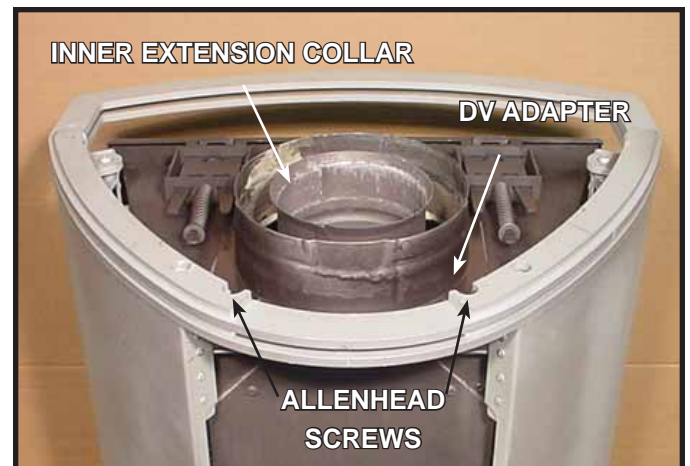

Figure 7.8
3. Remove and retain the Allen head screws that hold the solid back panel in place (**Figure 7.8**). Remove and discard the solid back panel.
4. Remove the inner extension collar (Shown in **Figure 7.8**) and set aside.
5. Remove the four screws from the DV adapter collar (**Figure 7.8**). Set aside DV adapter collar and screws.